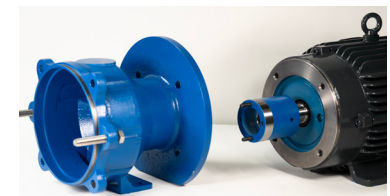

figure 15
- Remove the four motor adapter bolts and lock washers (items 30 & 31). Pull the motor adapter (Item 12) off the motor. See figure 15.